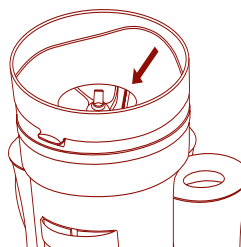

*Figure 2*
2. To remove the Ice Reservoir, push down on the **Ice Reservoir Release Button** (Figure 2). Lift the back of the Ice Reservoir and remove. This will expose the Hopper Cover, Shaving Paddle and Ice Hopper.